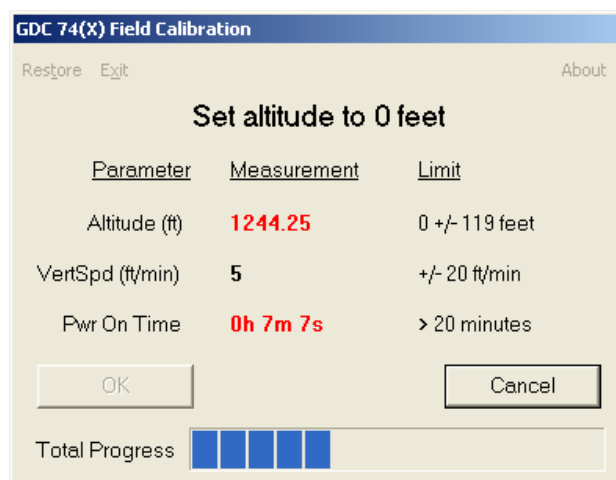

Figure 5-8. 0 Feet Calibration Screen
11. After the unit type has been determined, the 'Set altitude to 0 ft' screen (Figure 5-8) appears.